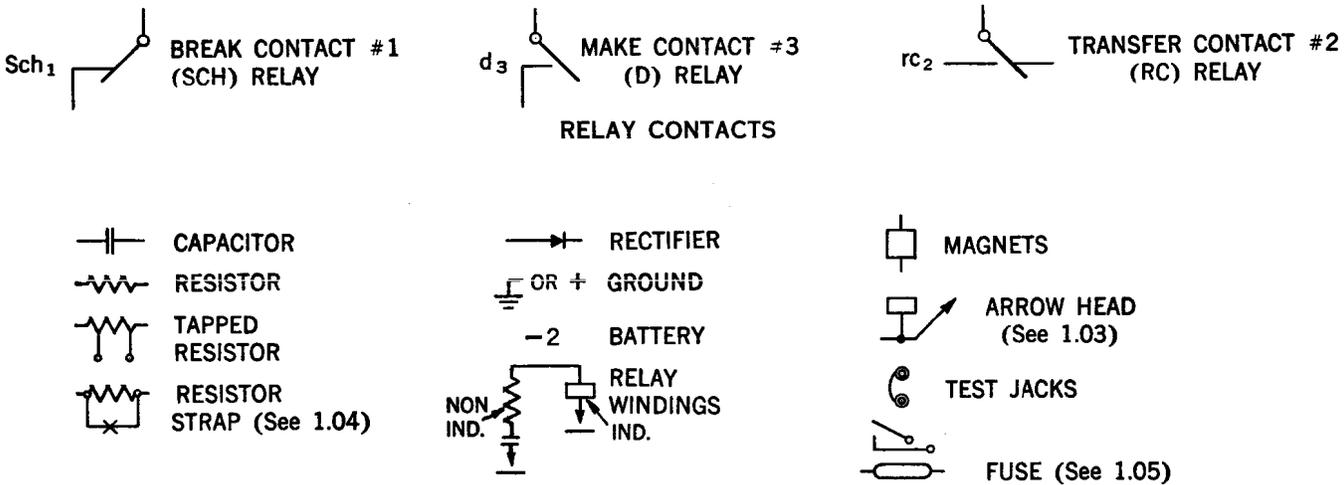

Fig. 2
sheet. The connection of the two points may be found by following the direction of the arrowhead, in a straight line to its associated arrowhead (Fig. 2).
**1.04** Resistor strapping with an X on the strap, as indicated on R2, R5, R11, R13, R18 of S11888 and R1 of S11889 is used to indicate strap removal when 60-volt operation is used (Fig. 2). 60-volt operation is no longer used in the Bell System; it has been replaced with 72-volts to extend the dc range of the line concentrator. When 72-volt operation is used, strap removal on resistors R11 of S11888 and R1 of S11889 is required.
**1.05** Fuses are represented by an oval-shaped symbol (Fig. 2). The contacts shown above
1.08 Fig. 2 contains a list of designated symbols as used in the schematics.